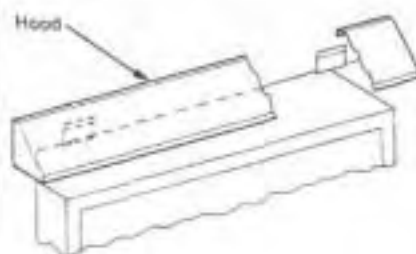

Figure 19
Step 12: Center hood over the two hood retainers, that were mounted to the wall in Step 1. Slide hood down until the hood resets on top of the fireplace (Figure 19).